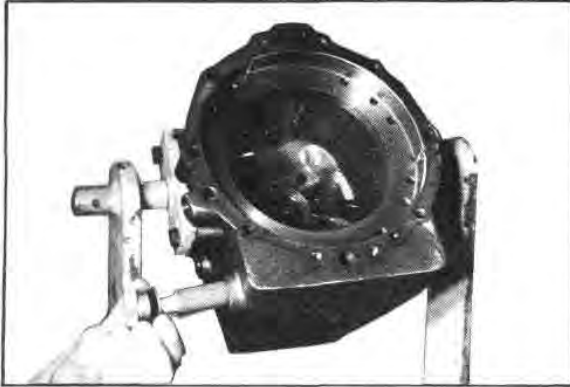

Fig. G15 — The Strainer Assembly
1. Remove the oil lines from the adaptor block and remove the adaptor block and bush. Reach into the opening with a suitable tool and remove the strainer assembly (Figure G15). Check the strainer assembly for sediment and foreign material and clean it in solvent before re-assembling.